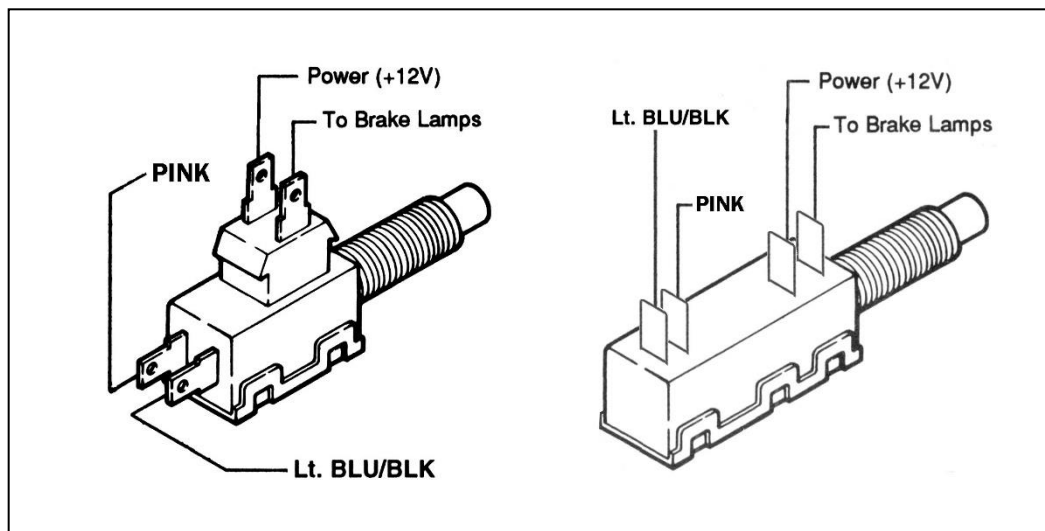

FIGURE 6.2 Brake Switch Connection
F. If you are using the recommended brake switch then you will wire it according to **Figure 6.2**. The pink wire to the back of the switch in the illustration is the wire that has power on it whether or not the brake is being applied.